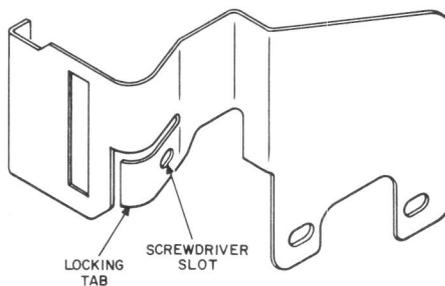

Fig. 13—P-23F361 Entrance Stop
- Add Fig. 13
- (c) Fig. 13—added
- 3.01** Maintenance of the 2A-type coin telephone set is limited to cleaning switch hook contacts and coin relay (HT) contacts, clearing of foreign objects from coin chute, adding P-23F361 entrance
3.21.2 A prefabricated locking tab arrangement on the entrance stop can be bent with a screwdriver (by authorized personnel) to hold the upper plate assembly off-normal (Fig. 13). This will prevent customer coin deposits in newly installed coin telephone sets awaiting initial service connection or those that are out of service which require further maintenance or repair.